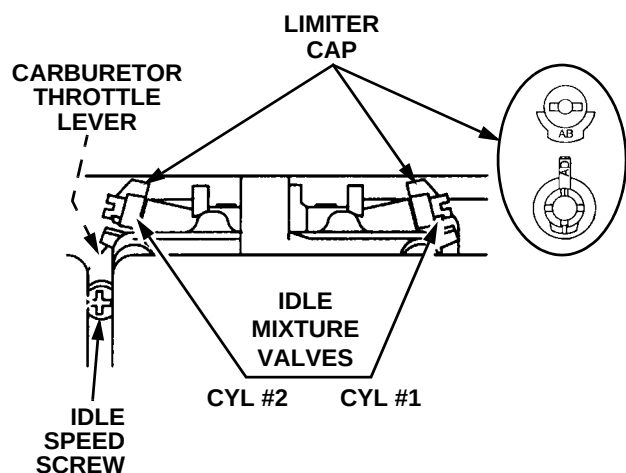

Figure 17
3. Rotate the carburetor throttle lever against the idle speed screw and hold it (See Figure 17).
5. Turn the idle mixture valve screw (with limiter cap) for cylinder #1 midway between limits. Then set the cylinder #2 mixture valve midway between limits, while holding the carburetor throttle lever against the idle speed screw. See Figure 17.